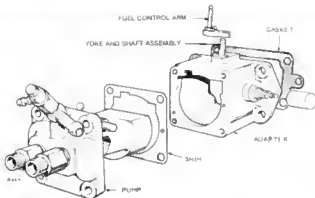

FIGURE 3-50 PUMP AND ADAPTER ASSEMBLY
2. Using proper shim thickness (Figure 3-50), install pump to adapter with four socket head cap screws and lock washers. Torque to 20 to 24 ft-lbs 27-33 N•m)
5. Reinstall fuel control arm on yoke and shaft assembly, Figure 3-50. Tighten socket head screw, but do not over tighten